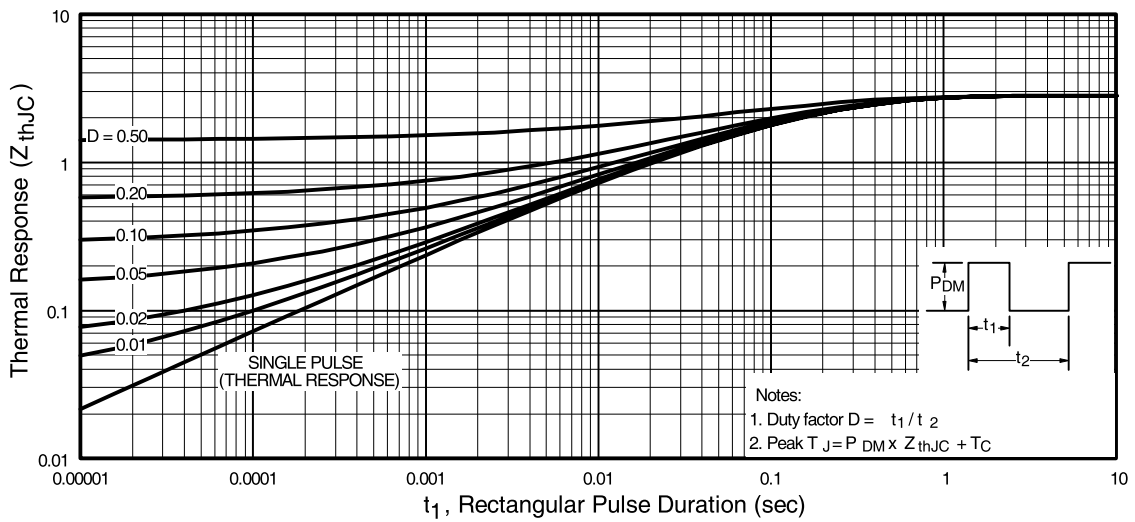

Fig 11. Maximum Effective Transient Thermal Impedance, Junction-to-Case
- ① Repetitive rating; pulse width limited by max. junction temperature. (See fig. 11)
- ② $V_{DD} = 25V$, starting $T_J = 25^\circ\text{C}$, $L = 530\mu H$